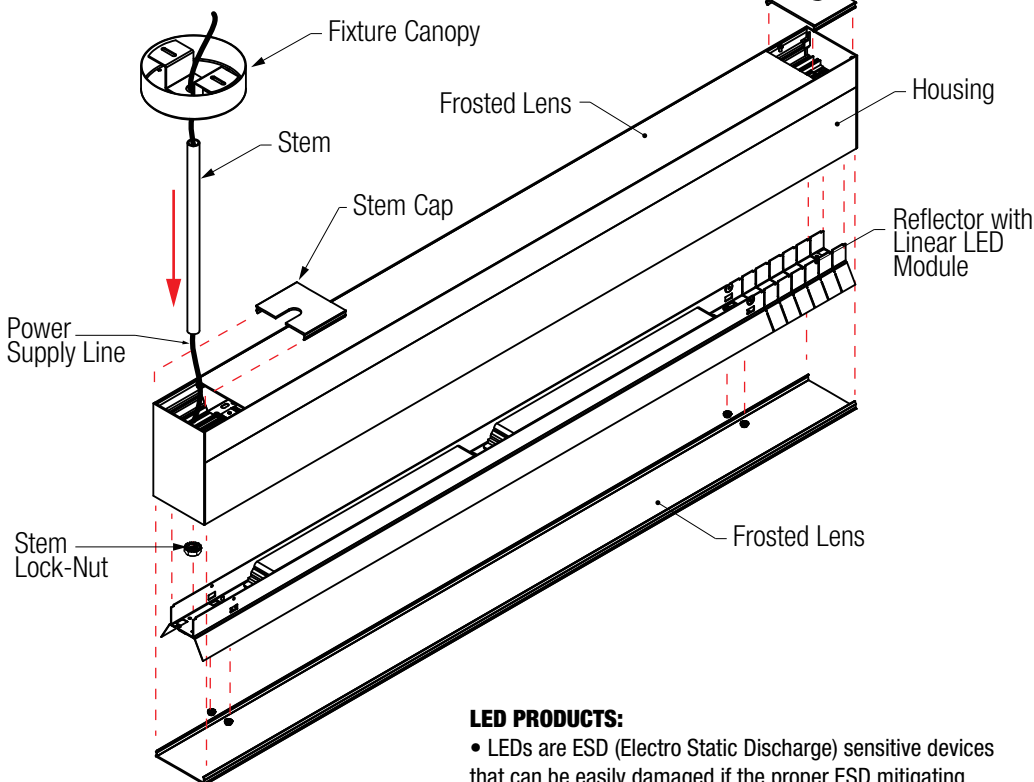

FIGURE 1
1. Carefully remove (un-snap) lens, bottom reflector with linear LED module to gain access to the power supply line and locking stem nut (*See Figure 1*).